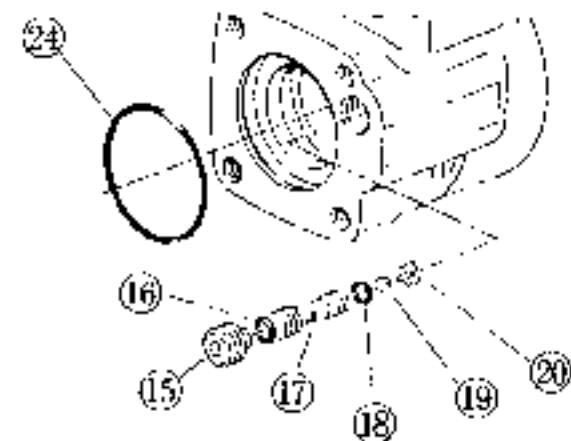

Fig. 13
16. Remove O-ring (16) from housing (10).
17. Unplug plug (17) from housing (10) using a 1/4" Allen key (Fig. 13). Note that the plug has been locked by locking adhesive.
18. Extract check seat (18) by screwing a #10-24 threaded bar (special tool).
19. Remove O-rings (19), (20) from check seat (18).
20. Take out check ball (20) and check ball retainer (21) from housing (10).
16. ハウジング(10)からOリング(16)を外す。(Fig. 13)
17. 1/4"六角レンチを使用してハウジング(10)からプラグ(17)を外す。(Fig. 13) (プラグには緩み止め剤が塗ってあります。)